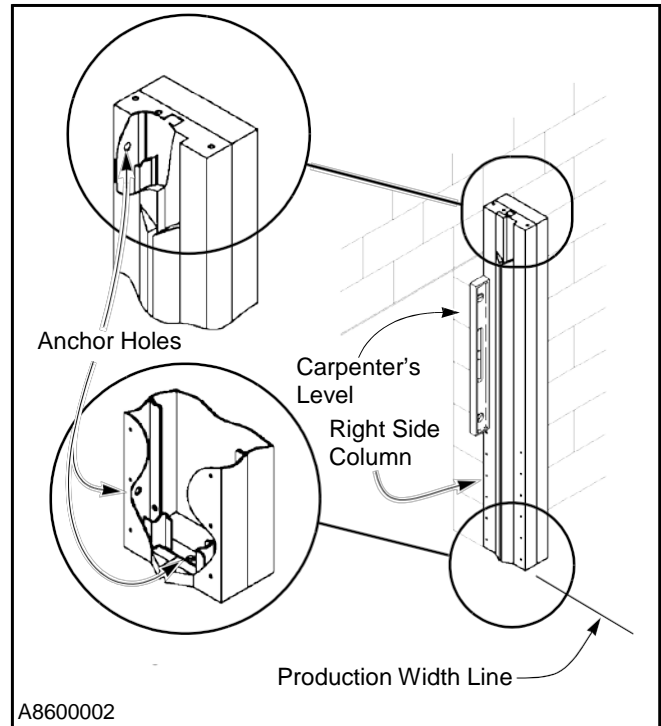

Figure 12
3. Stand the right side column on the floor. Place it against the wall, just outside the line indicating the production width of the door. (See Figure 12.)
4. Once the side column is set plumb and square, anchor it to the wall and floor. (See Figure 12.) Pre-drilled anchor holes have been provided in the side column. DO NOT securely tighten the anchors at this time — they will be tightened later on, after the head assembly is installed.